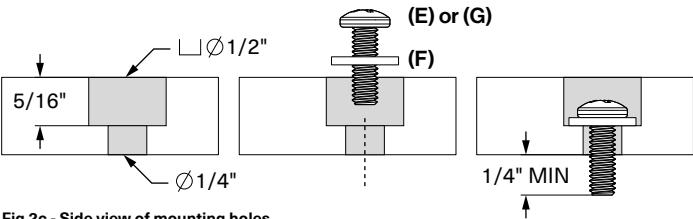

Fig 2c - Side view of mounting holes
- 2.5 Drill 1/2" (12mm) diameter counterbores 5/16" (8mm) deep at M1, M2, and M3. Then drill 1/4" (6mm) through holes at each mounting hole (M1, M2, M3) through the center of the counter bore [Fig 2c].